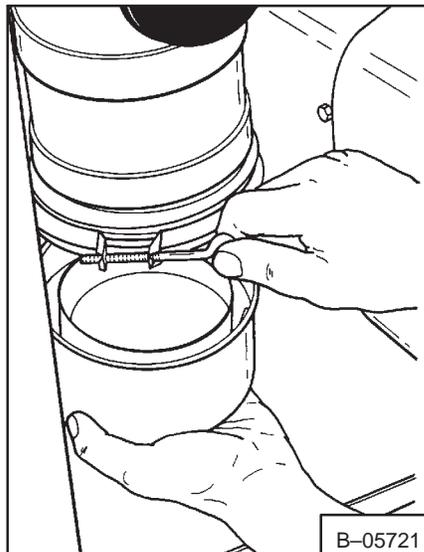

Fig. 1-7 Air Cleaner Cup (540)
2. Remove the dust cup and clean every day (Fig. 1-7).